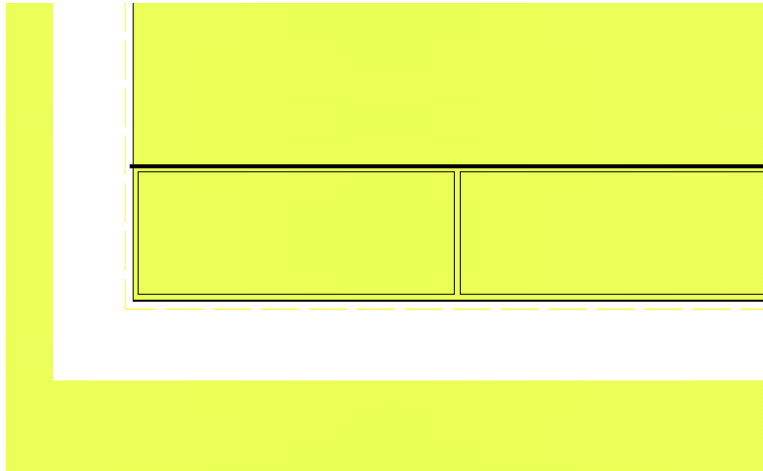

Figure 4-96
24. Make a copy of this rectangle to the right of the original. Select *Modify/Copy/Linear*, click on the rectangle and then click [OK] for 1 copy. Click on the top left of the rectangle and while holding the <Ctrl> key down, move the copy to the right of the original. Click to place the copy. (Holding the <Ctrl> key down while drawing an object activates the "Ortho Mode"). See Figure 4-96.